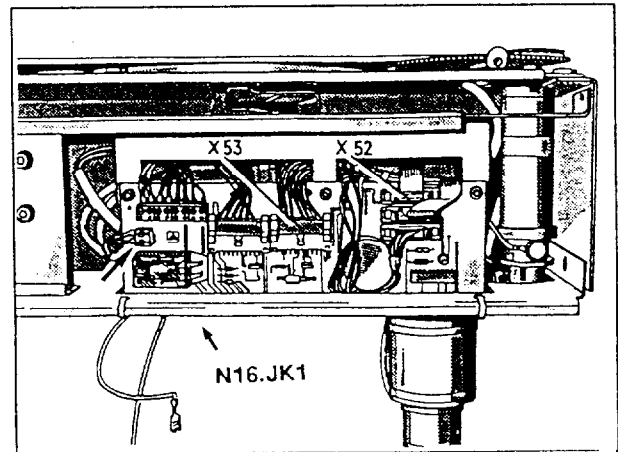

Fig. 4
- Remove the connections X52 and X53 of am52 or of the encoder (Fig.4).
- Remove the IONTOMAT connection N16/JK1 (Fig.4).